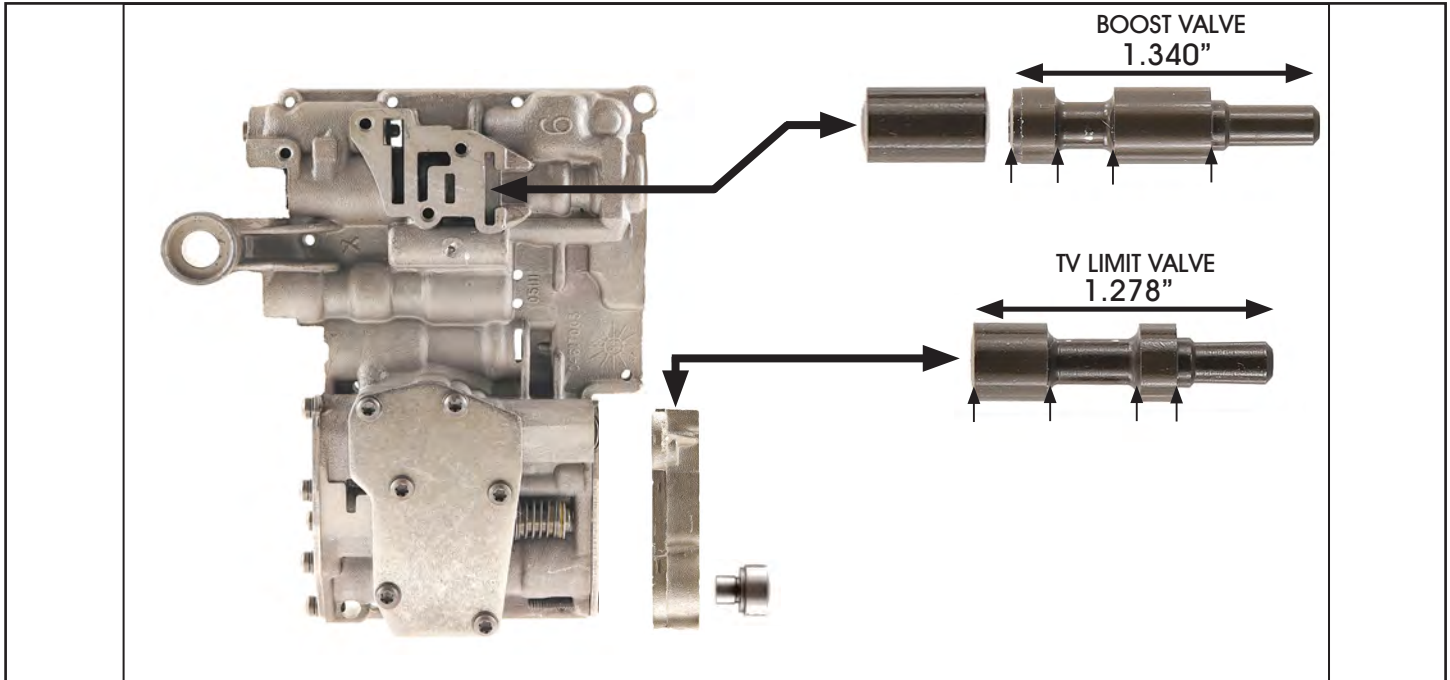

Figure 4
- CAUSE 4:** The TV limit and boost valves were installed in the wrong locations, reversed. They have the same outside diameter and look similar, however the land spacing is very different. See figure 4.